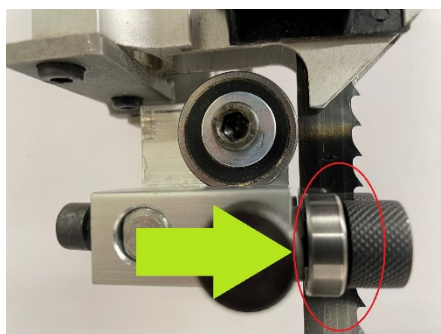

Figure 33
- Move the fence forward so that the side bearings are level with the heel of the saw blade. (Fig 33)